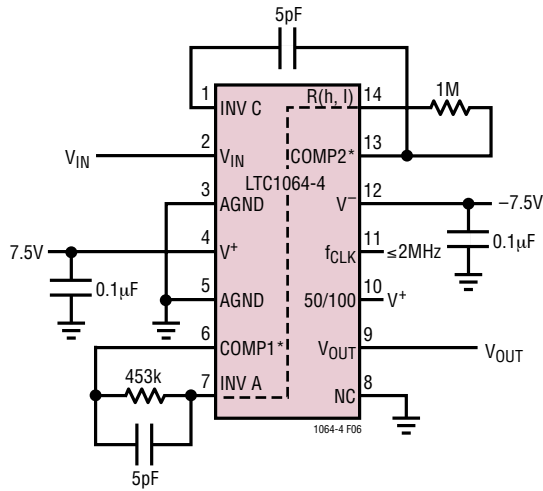
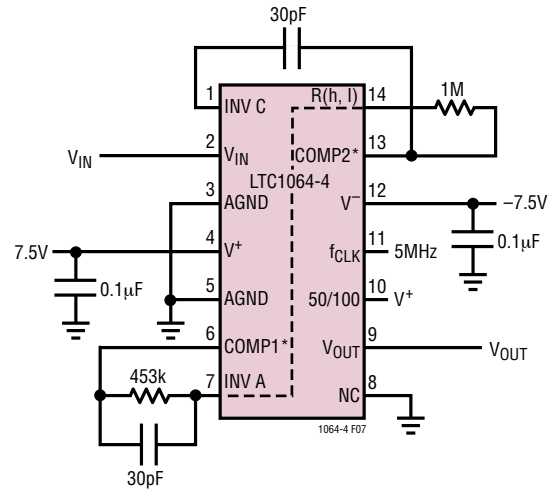

Figure 6. Compensating LTC1064-4 for Passband Ripple of  $\pm 0.1\text{dB}$  and  $f_{\text{CUTOFF}}$  Sweeps to 40kHz.
Figure 7. Compensating LTC1064-4 for  $f_{\text{CUTOFF}} = 100\text{kHz}$ , Gain at  $f_{\text{CUTOFF}} = -1.3\text{dB}$ , Table 8.
**Table 9. Gain/Phase for Figure 7.**
**INV C, COMP1, INV A, COMP2 (Pins 1, 6, 7 and 13):** To obtain a Cauer response with minimum passband ripple and cutoff frequencies above 20kHz, compensating components are required. Figure 6 uses  $\pm 7.5V$  power supplies and compensation components to achieve up to 40kHz *sweepable* cutoff frequencies and  $\pm 0.1dB$  passband ripple. Table 7 lists the typical amplitude response of Figure 6. Figure 7 illustrates the compensation scheme required to obtain a 100kHz cutoff frequency; Graph 4 and Tables 8 and 9 list the typical response of Figure 7 for 25°C and 125°C ambient temperature. As shown the ripple increases at high temperatures but still a  $\pm 0.25dB$  figure can be obtained for ambient temperatures below 70°C.